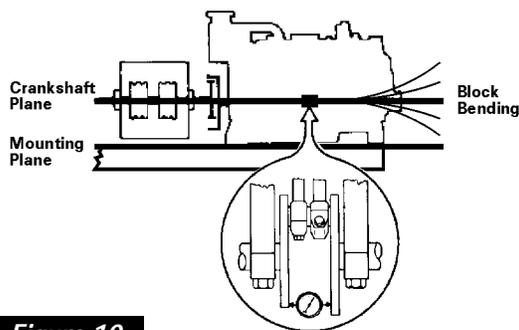

Figure 10
- Rotate the crankshaft in the normal rotation direction. When the cheeks of the center throw are past the connecting rods, install a Starrett No. 696 distortion dial indicator, or similar tool, as shown in **Figure 10**. As a precaution, tie a string to the gauge and secure it outside the engine to facilitate retrieval should the assembly fall into the oil pan.